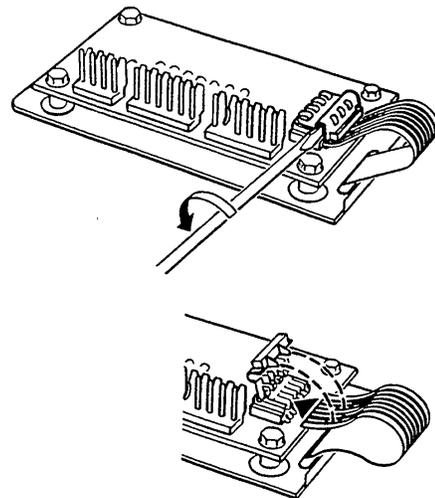

Figure 56. Switch Module Removal
3. To open the connector labeled J3 insert a small pocket screwdriver and carefully twist counterclockwise, then pull out the ribbon (Figure 56).